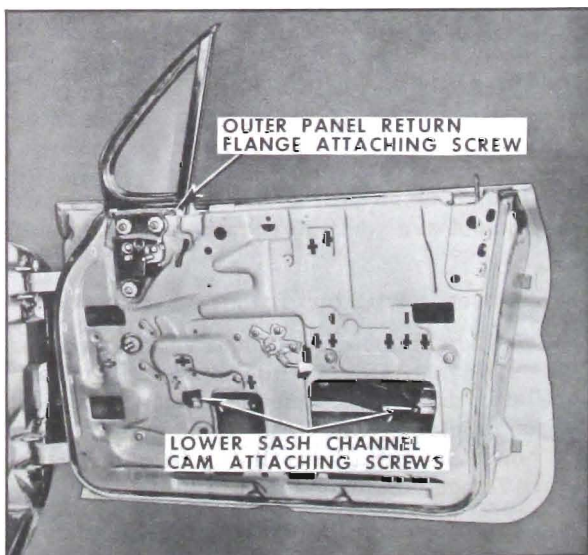

Figure 2-21—Front Door Ventilator Attachment (Hardtop & Convertibles)
2. Lower door window. Remove ventilator to door outer panel return flange attaching screw (see Figure 2-21).
4. Remove ventilator division channel lower adjusting stud and nut (see Figure 2-21).
5. Loosen ventilator frame adjusting stud nut and remove ventilator attaching bolts (see Figure 2-21); then carefully lift ventilator assembly upward and rearward and remove from door.
2. Remove ventilator frame to outer panel attaching screw (see Figure 2-21).
4. Remove window lower sash channel cam attaching screws and disengage cam from window sash channel. Then lift window assembly upward and remove from door (see Figure 2-21).
2. Lower door window to expose lower sash channel cam attaching screws and remove screws (see Figure 2-21).